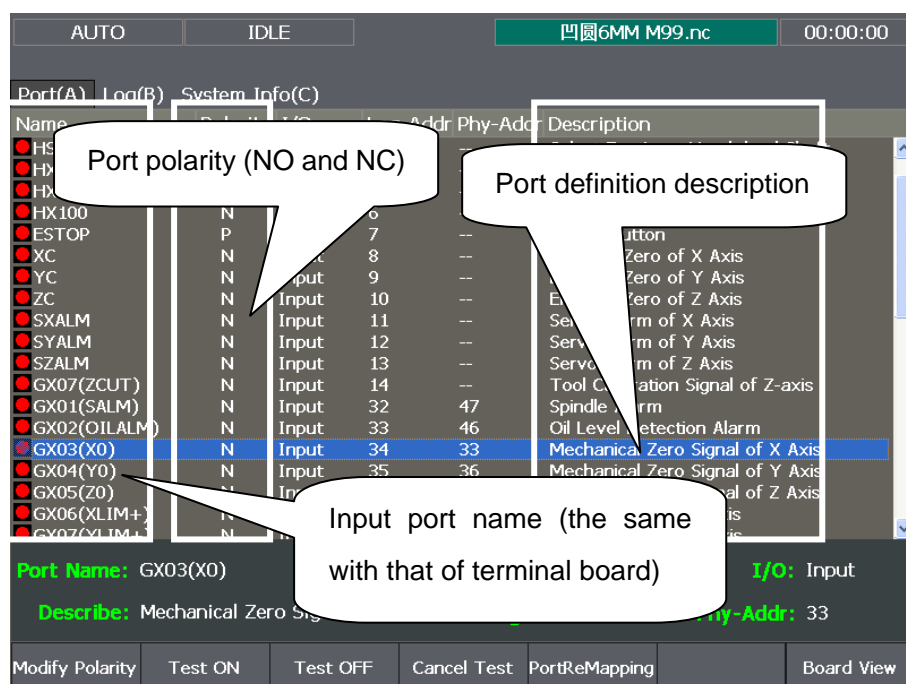

Fig. 3-13 Ports screen
[Port (A)] screen is shown in Fig. 3-13, and the following function screens need password before operation, such as [Test On], [Test Off], [Cancel Test], and [Modify Polarity].